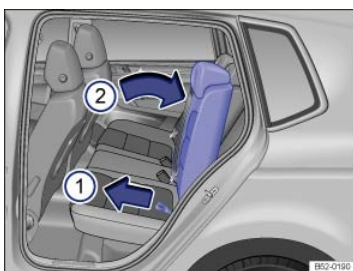

Fig. 77 Adjusting the second row seat backrest.
- *With the pull strap:* Place one hand on the section of the second row backrest you wish to adjust and pull the respective pull strap with the other hand ⇒ Fig. 77 ①. Move the rear backrest to the desired position by hand against the force of the spring. Release the pull strap and lock the rear backrest by gently tilting it forward or backward. With the pull strap, you can fold the section of the backrest all the way forward and latch it in the folded position ⇒ Folding the second row seats forward.
- *With the lever (for vehicles with seven seats):* Pull the lever ⇒ Fig. 77 and push or pull the backrest to adjust the section to the desired position. With the lever, you can also move the seat forward to make entering the third row of seats easier, and then push it back ⇒ Entry assistance for the third row seats.